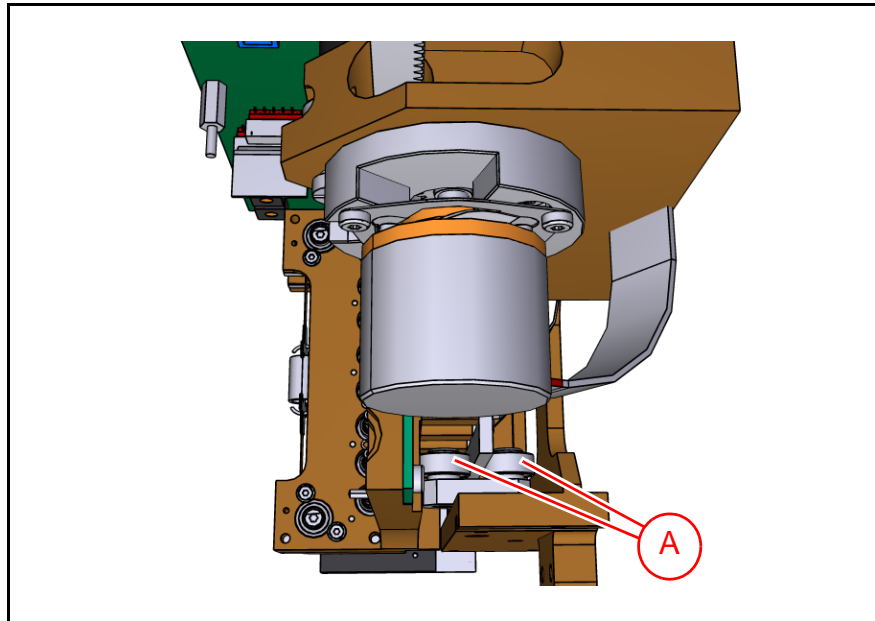

Figure 16-31. HYDRA (top view).
- Use a Q-tip to clean and lubricate (K-012-0098 GREASE OKS 270) the guide bearings, ('A' in Figure 16-31).
- Use a Q-tip to clean and lubricate (K-012-0098 GREASE OKS 270) the gear rack ('A' in Figure 16-31) and latch fingers ('B').